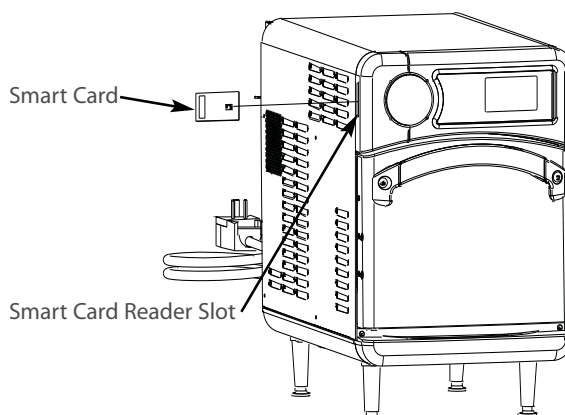

Figure 17: Inserting Smart Card
3. Insert the smart card (Figure 17).
1. Insert the smart card "1 of 3" (Figure 17).